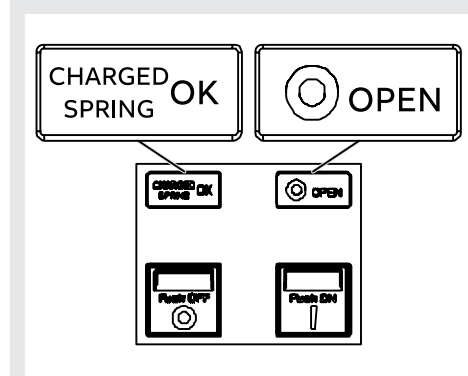

Figure 36
2. Circuit-breaker open with springs charged (see Figure 36).